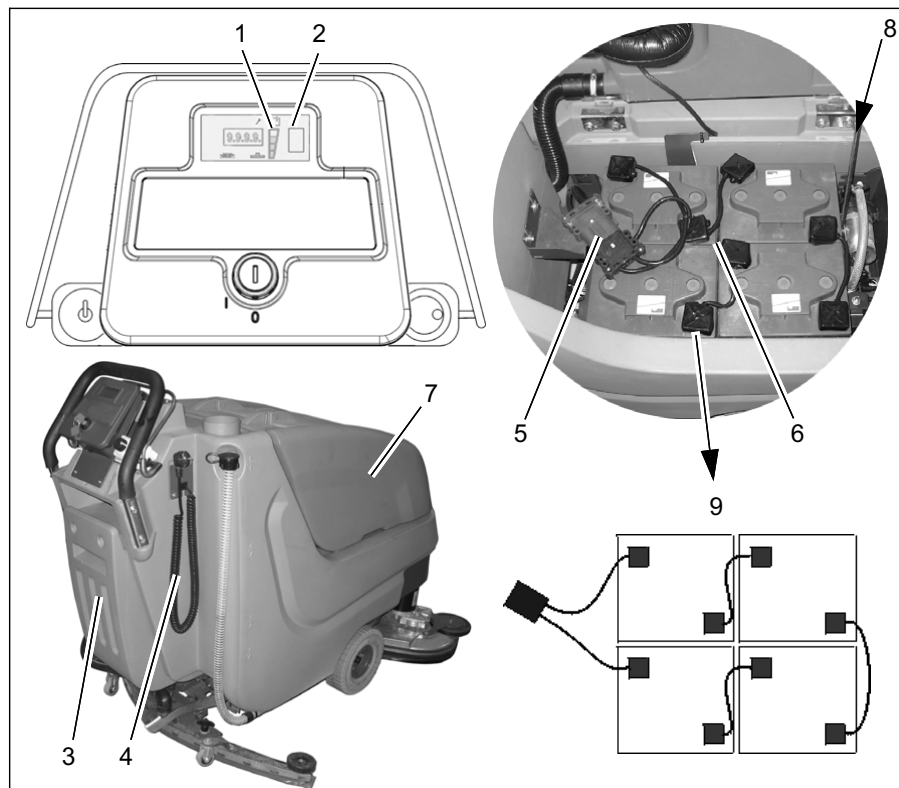

Fig.6
Use the integrated battery charger (Fig. 6/3) to charge batteries. Proceed to connection of the charger by means of the mains cable (Fig. 6/4) with safety plug. Charging batteries is recommended if at least one bar of the LDS display has extinguished after operation of the machine. On this behalf you are requested to observe the operating instructions of the charger 88-60-2723 as well as the operating instructions of the battery manufacturer. In case it is intended to change the type of battery the charger has to be adjusted only by Minuteman contract workshops.
3. Open empty recovery tank (Fig. 6/7) and secure by support (Fig. 6/8).
4. Disconnect battery connector (Fig. 6/5).
2. Open empty recovery tank (Fig. 6/7) and secure by support (Fig. 6/8).
4. Connect battery poles and enclosed connecting cables according to wiring diagram (Fig. 6/9). Provide for tight fitting and grease poles.